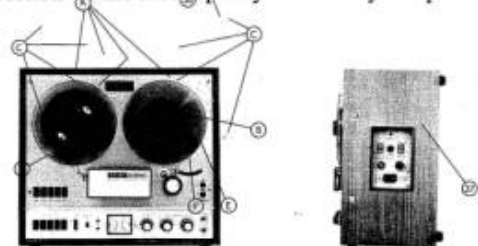

FIG. 10 REMOVING THE FRONT PANEL
1. Remove the front panel (Fig. 10).